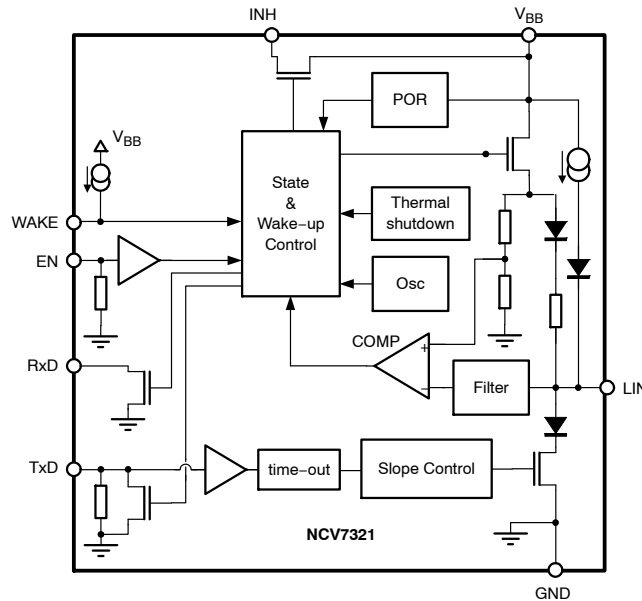

Figure 1. Block Diagram
10. The voltage drop in Normal mode between LIN and V_{BB} pin is the sum of the diode drop and the drop at serial pull-up resistor. The drop at the switch is negligible. See Figure 1.